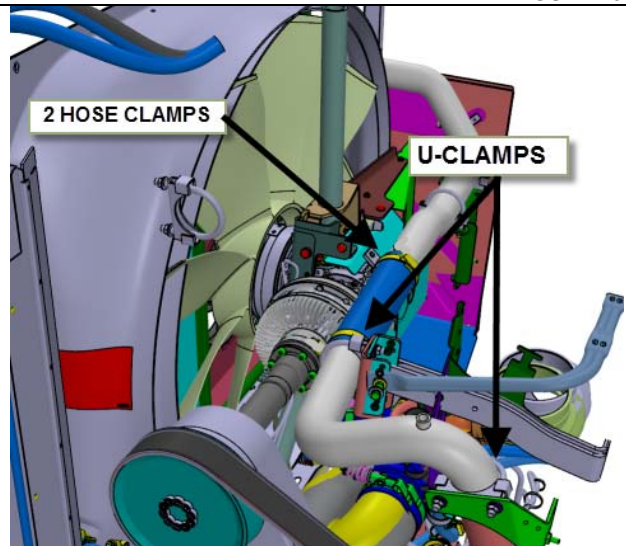

FIGURE 19
**Note: Pay attention to the position of the clamp. Refer to FIGURE 19.**
28. Reinstall the U-clamps (2 U-clamps) loosely (FIGURE 19).